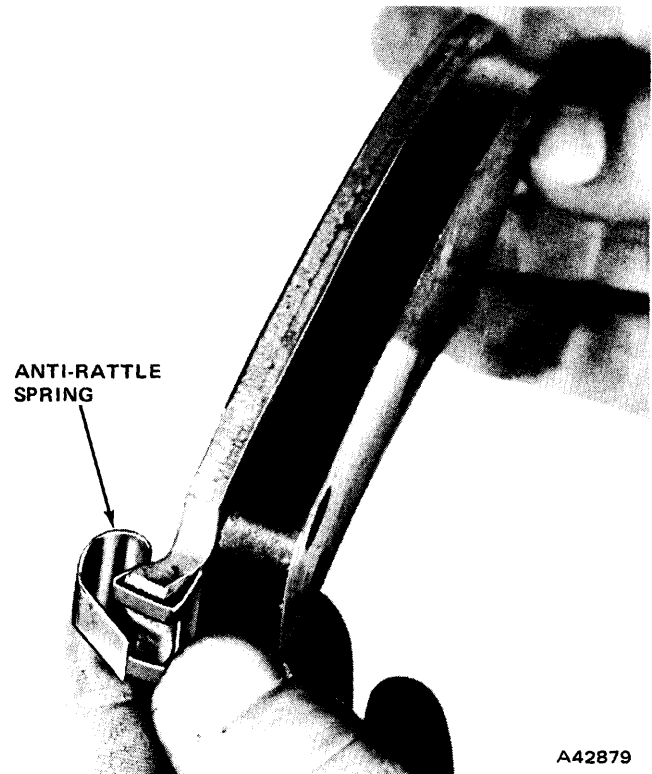

Fig. 9-50 Installing Anti-Rattle Spring On Inboard Brakeshoe
(1) Install inboard brakeshoe anti-rattle spring on rear flange of inboard brakeshoe. Be sure looped section of spring faces away from rotor (fig. 9-50).